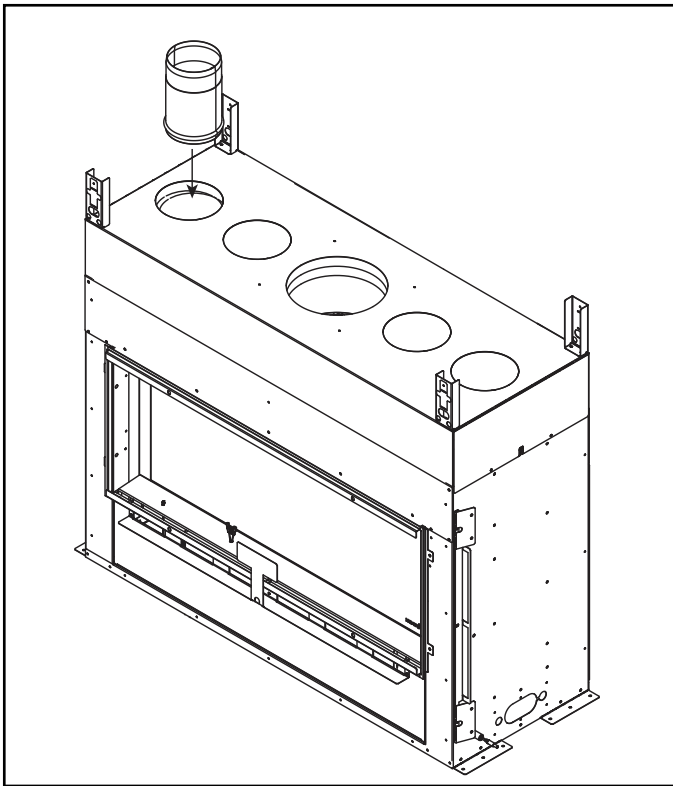

Figure 3 Install Collar
- Place the collar, included with the HZLIN-ADP kit, into the opening as shown in Figure 3.